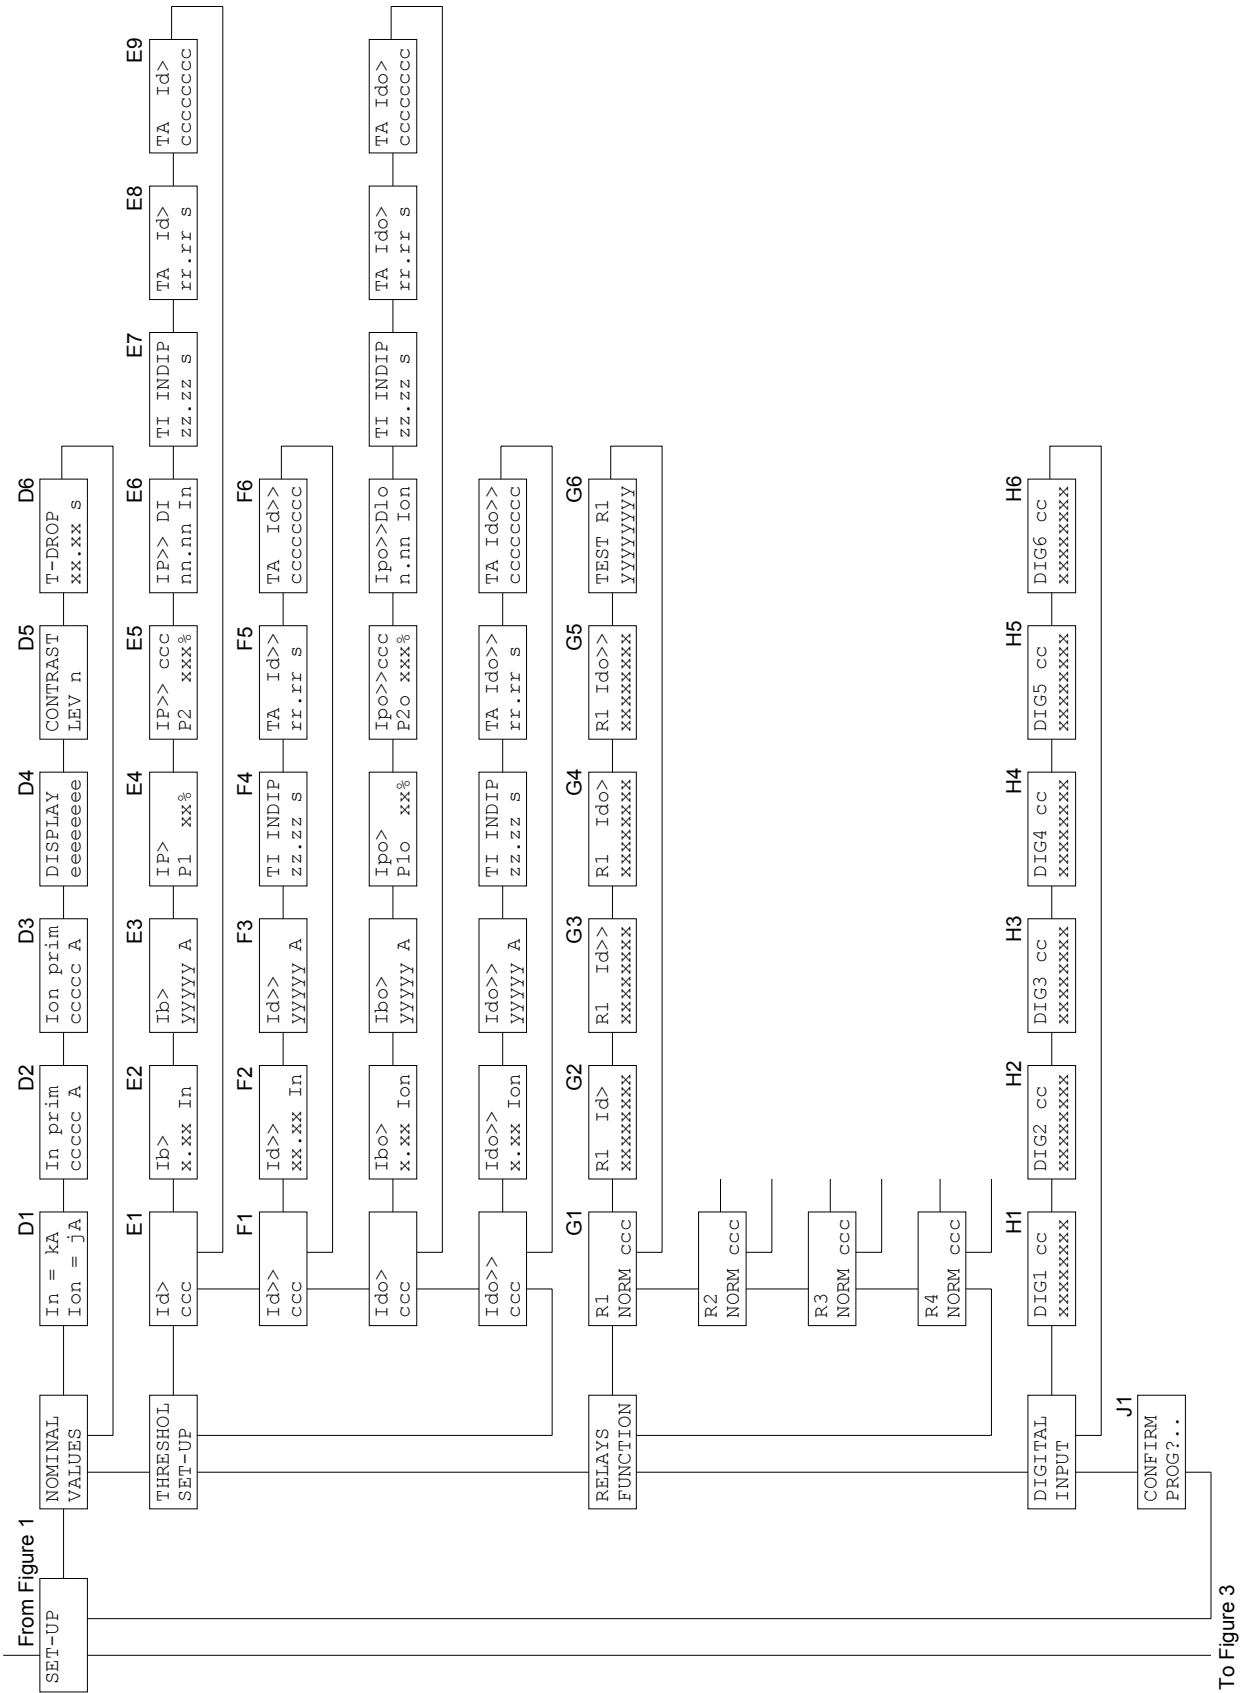

Figure 2
When the output relays test is selected (Fig. 2, ref. G6) it is possible to command an output relay (one at the time) to trip from the current status allowing functional tests on electrical plants.
5.5 Nominal values set-up (fig. 2)**D1 - NOMINAL CURRENT SELECTION In (programmable)**